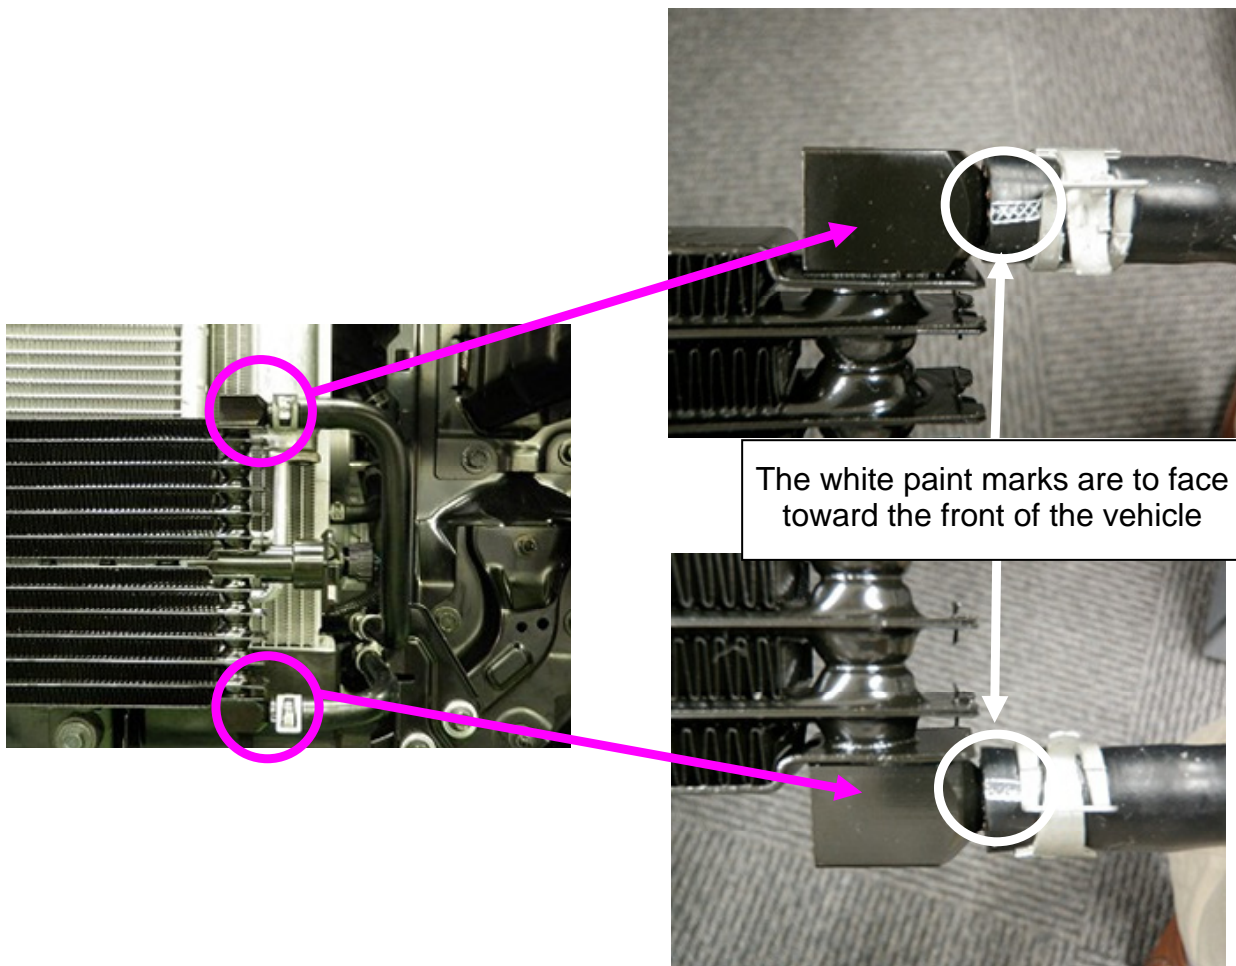

Figure 24
- Install the HOSE (hoses) with the white paint marks facing toward front of the vehicle (see Figure 24).